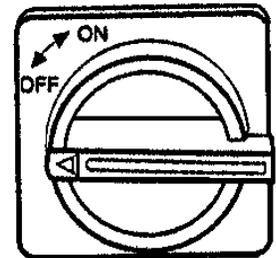

FIGURE 3
The On/Off switch (Disconnect) is mounted on the unit under the top panel and behind the condenser coil. **Reference Figures 1A through 1C – Typical Component Location and Figure 3.**
1. Ensure On/Off switch (Disconnect) is turned to "Off" position. The On/Off (Disconnect) switch is "Off" when turned counter-clockwise. **Reference Figure 3.**
7. Turn On/Off switch (Disconnect) to "On" position. Turn On/Off switch (Disconnect) to "On" position by turning clockwise. **See Figure 3.**
1. Turn Disconnect to "Off" position. The On/Off (Disconnect) switch is "Off" when turned counter-clockwise. **Reference Figure 3.**